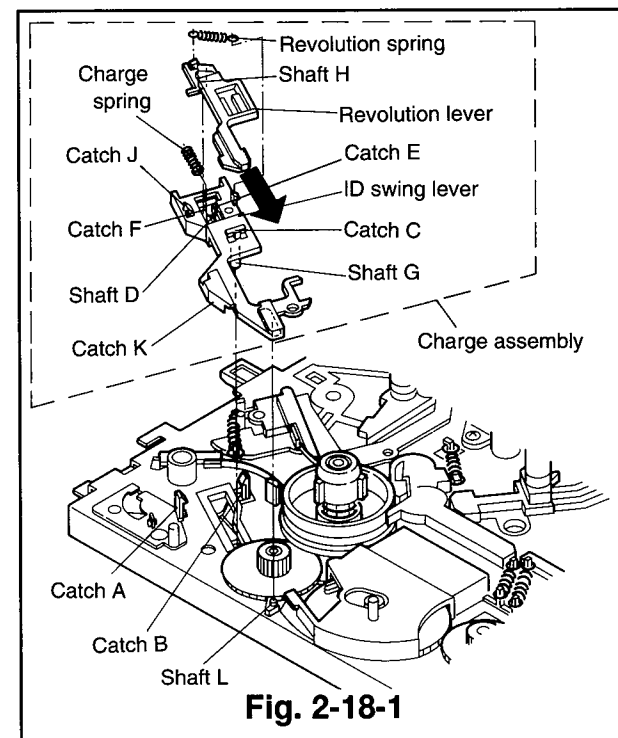

Fig. 2-18-1
- ① Remove the cassette housing. (Refer to Para. 2-1 for the removal method.)
- ② Reverse the deck and remove the grip ring attached to the shaft G of the charge assembly.
- ③ Unfasten the two catches(A, B) to remove the charge assembly.
- ④ Remove the revolution spring with a tweezers.
- ⑤ Slide the revolution lever in the direction shown by the arrow and unfasten it from the catch C of the ID swing lever. (Refer to Fig. 2-18-1)
- ⑥ Detach the charge spring from the ID swing lever.
- ② Fix the charge spring to shaft D of the ID swing lever and compress it to hook its ends with the catches E and F. (Refer to Fig. 2-18-1)
The wider semicircle is on the left as shown in Fig. 2-18-1.
- ③ Align the shaft H of the revolution lever with the position shown in Fig. 2-18-1. Insert catch C of the ID swing lever into the hole of the revolution lever, pushing the charge spring with a revolution lever in the direction shown by the arrow. At the same time, hook the ends of the revolution lever with the catches J and K.
- ④ Attach the revolution spring with a tweezers.
- ⑤ Install the charge assembly so that shaft G enters into the oval hole of the charge lever on the reverse side of the deck and the groove of the charge assembly fits the shaft as shown in Fig. 2-18-1. Secure the charge assembly with the catch A and B.
- ⑥ Reverse the deck and fix the new grip ring to the shaft G of the charge assembly.
- ⑦ Install the cassette housing. (Refer to Para. 2-1 for the installation method.)